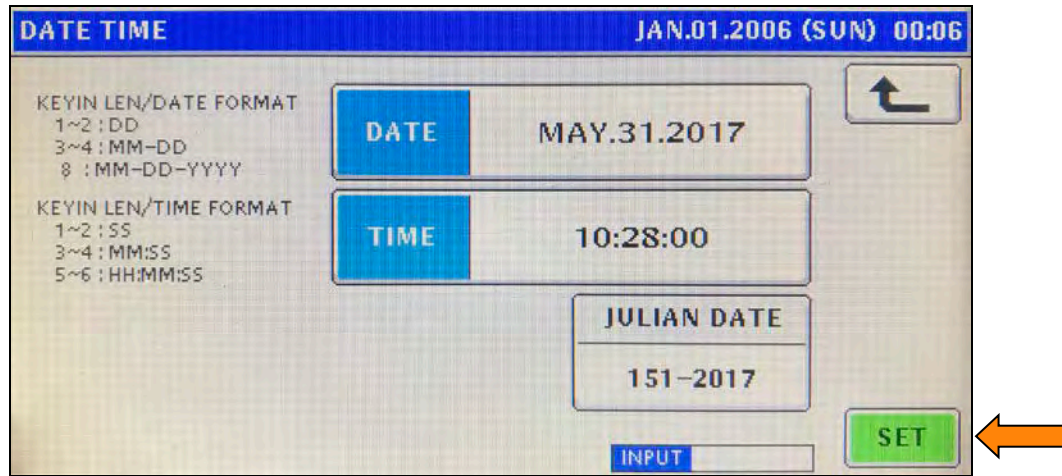

Figure 35. Date and Time Entry Screen
24. Enter Date and Time values. See Figure 35.